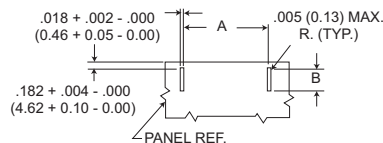

Figure 4
(see Figure 4)
3. Figure 4 is for edge board mounting bracket or edgeboard clip assembly. The .184 + .002 (2.67 + .05) dimension locates the MD socket insulator flush with the end of the board.